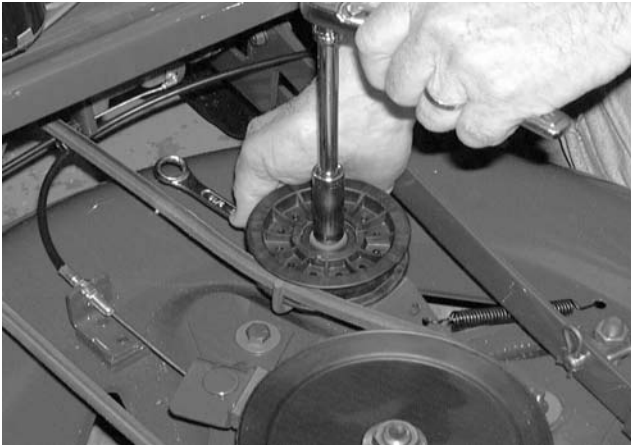

**Figure 8-29.**
6. Remove the deck belt cover from the deck assembly. See Figure 8-29.